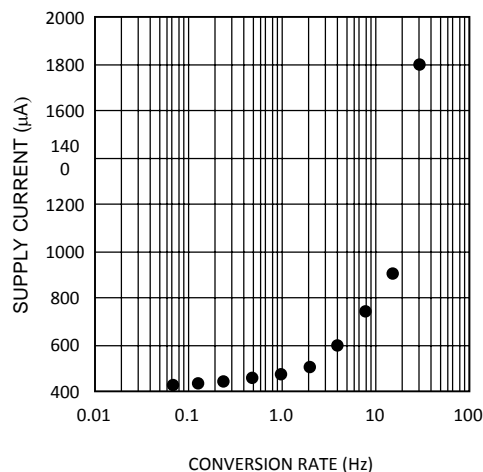

Figure 3. Conversion Rate Effect on Power Supply Current
The LM86 takes approximately 31.25 ms to convert the Local Temperature (LT), Remote Temperature (RT), and to update all of its registers. Only during the conversion process the busy bit (D7) in the Status register (02h) is high. These conversions are addressed in a round robin sequence. The conversion rate may be modified by the Conversion Rate Register (04h). When the conversion rate is modified a delay is inserted between conversions, the actual conversion time remains at 31.25ms. Different conversion rates will cause the LM86 to draw different amounts of supply current as shown in Figure 3.